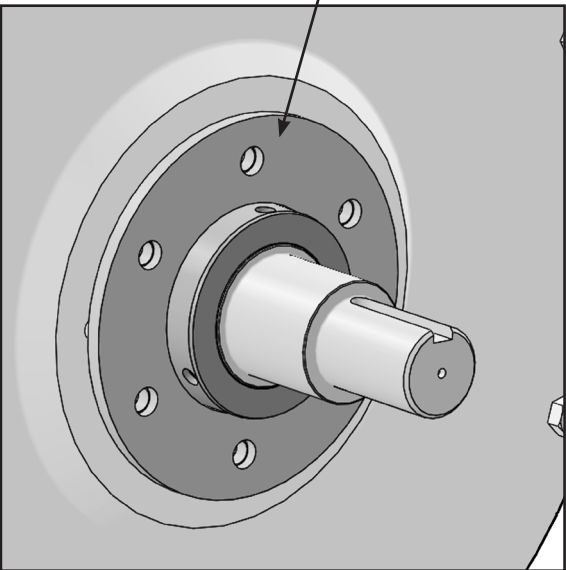

FIGURE 26
- 14. Slide the puller plate over the bushing with the weld nuts facing towards endplate (Figure 26).